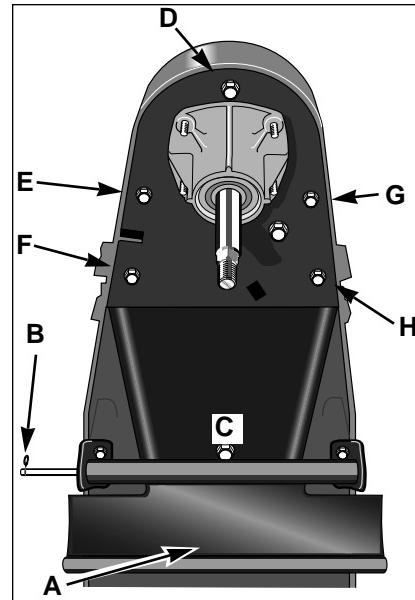

Figure 5-4
B. Remove the rubber debris flap (A, Figure 5-4) by using pliers to remove either one of the small E-rings (B) at the ends of the retainer rod and then sliding the retainer rod out.
C. Remove the rear belt cover by using a 1/2" wrench to remove the single screw (C, Figure 5-4) in the rear belt cover. Examine the belt carefully. Feed it around the rear pulley so the entire belt can be examined. If cracks or other damage are noted, a new belt is needed. Otherwise, clean and replace the belt cover and debris flap.
E. With a 1/2" wrench, remove the screw (D, Fig. 5-4) securing the front belt cover/spindle mounting plate. Then remove the other four screws holding the belt cover/spindle mounting plate on (E, F, G and H, Fig. 5-4). Lower the drive housing and the belt cover/spindle mounting plate carefully. Note precisely how the belt is routed along the pulleys. (See Figure 5-7.) Work the belt off the rear pulley (H, Figure 5-7), then off the other pulleys. NOTE: The nut on the idler arm V-pulley must be removed in order to take off the belt. The screw may need to be held with an allen wrench. Install the new belt along the very same path.